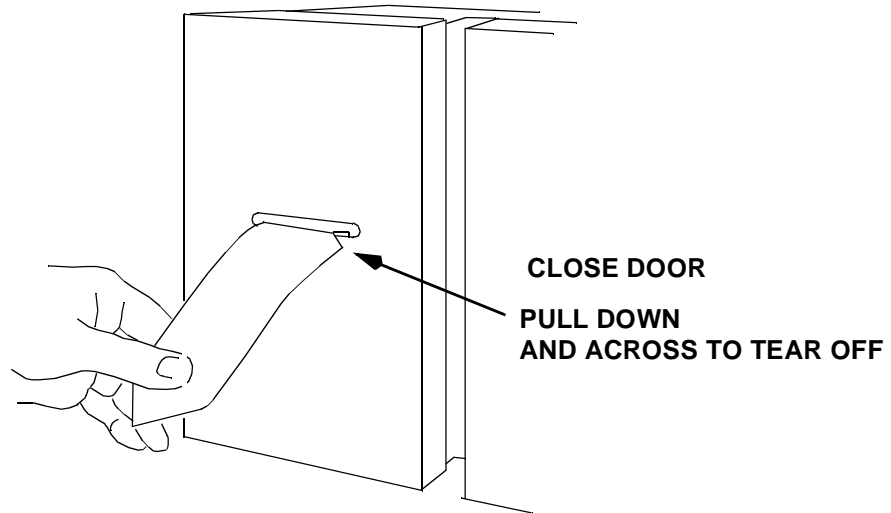

Figure 20. Printer with Door Closed
8. Pull the paper down and across to tear off the extended portion [Figure 20].